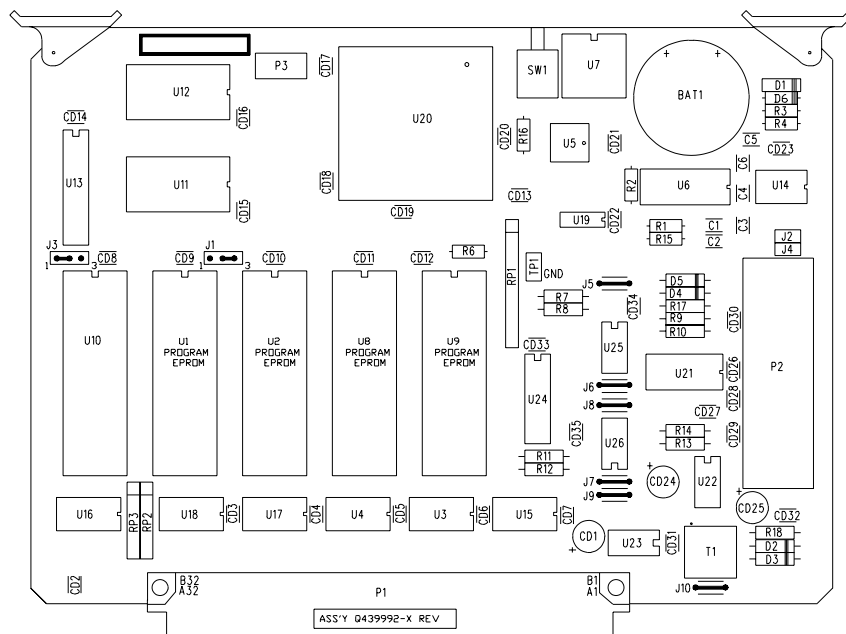
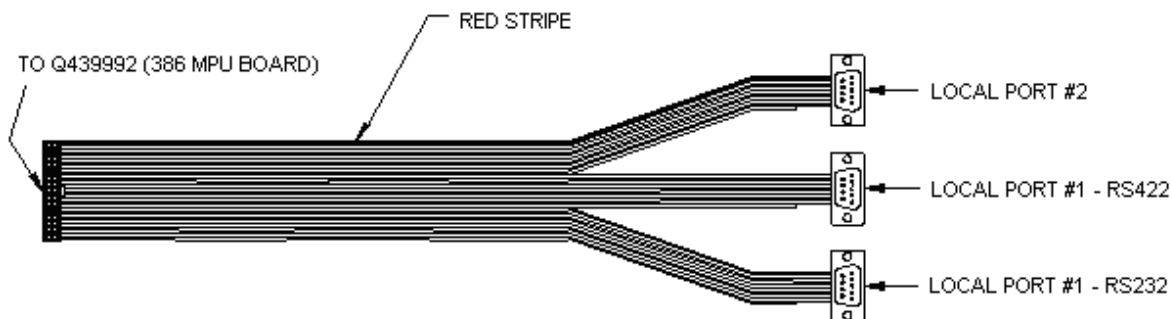

Figure 16 - Q439992 MPU Board
Figure 17 - 439513 Serial Interface Cable
- The ATG system must have a (P/N Q439992) MPU board installed with a serial communication cable (P/N 439513). Refer to Figure 16 and Figure 17 to identify the correct parts. If these are not part of the system it will be necessary to order an upgrade kit (P/N 451337) for the ATG system before proceeding.